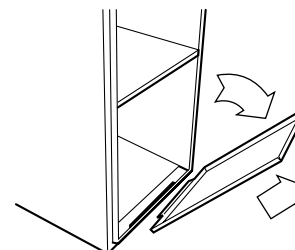

Fig. 23 - Removing Blower Access Panel
- (2.) Remove blower access panel. (See Fig. 23.)